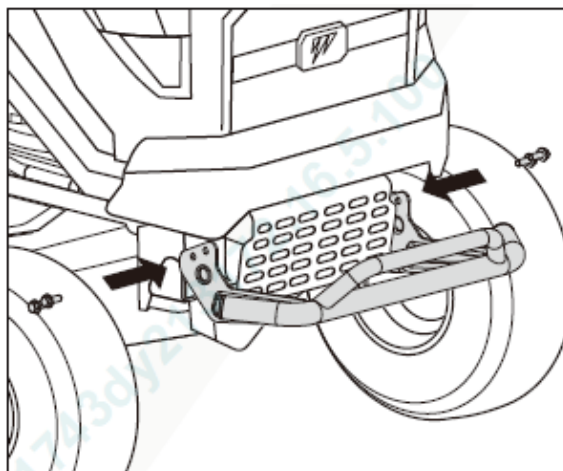

Fig. 5
1. Position the bumper bar in the front of the tractor (Fig.5)
2. Install the bumper bar with the four bolts provided (two on each side). (Fig.5)